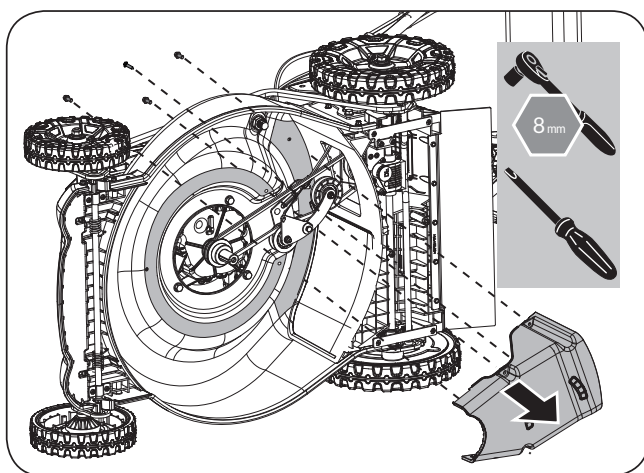

Figure 23
3. Remove the belt cover. (See **Figure 23**)